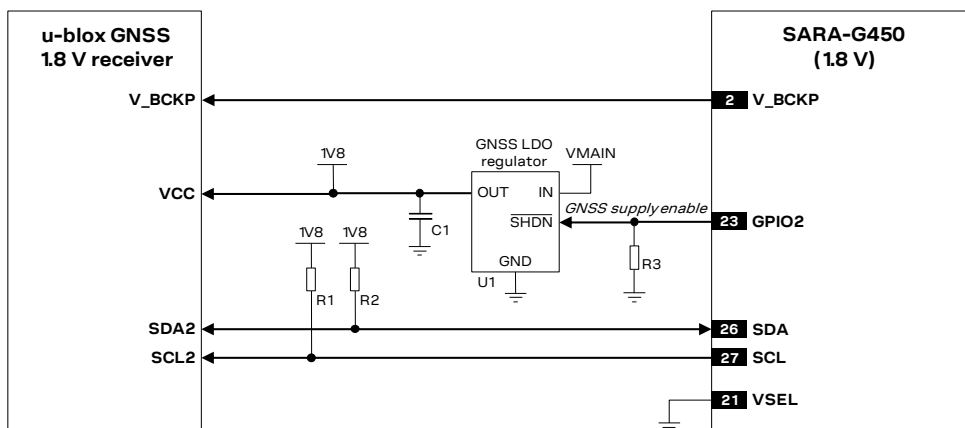
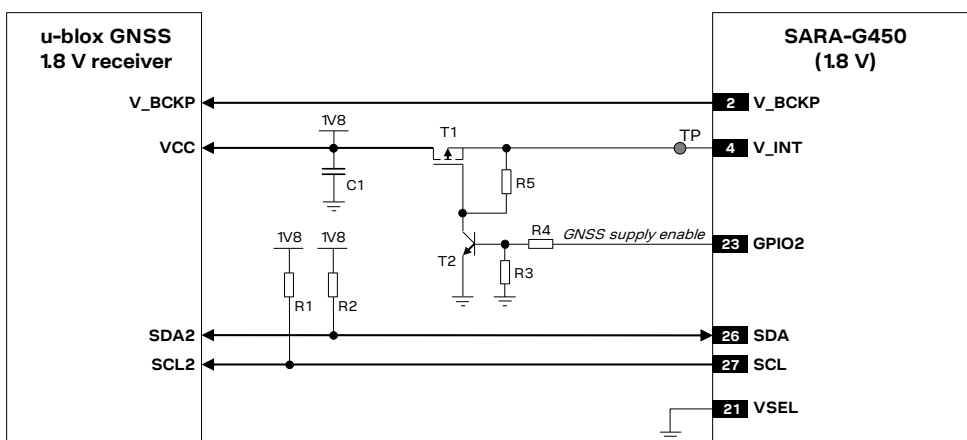
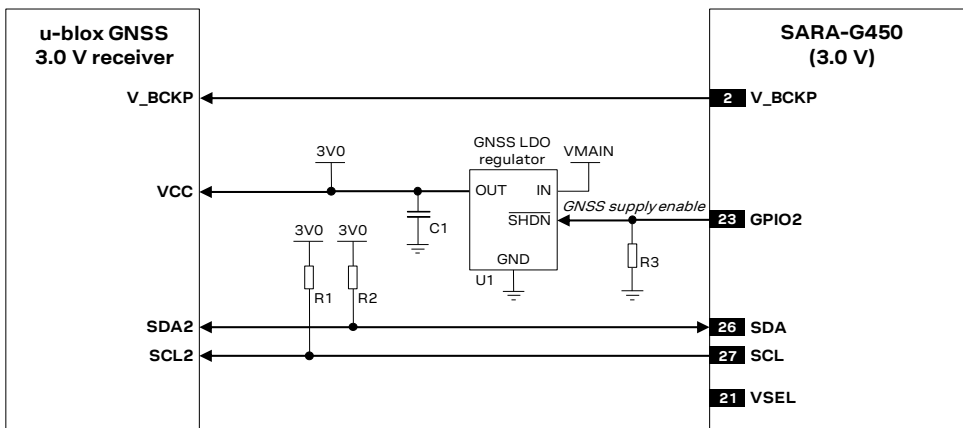
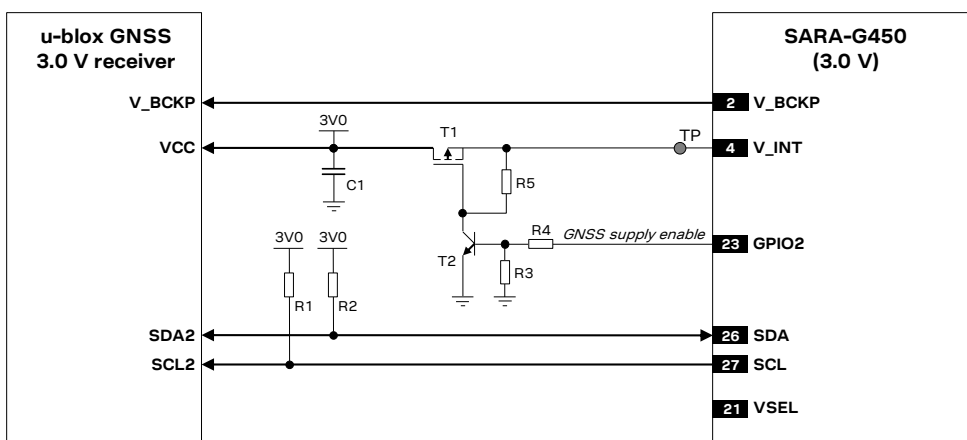

Figure 63: Application circuit for connecting SARA-G450 (1.8 V) modules to u-blox 1.8 V GNSS receivers
Figure 64: Application circuit for connecting SARA-G450 (1.8 V) modules to u-blox 1.8 V GNSS receivers using **V_INT** as supply
Figure 66: Application circuit for connecting SARA-G450 (3.0 V) modules to u-blox 3.0 V GNSS receivers
Figure 67: Application circuit for connecting SARA-G450 (3.0 V) modules to u-blox 3.0 V GNSS receivers using **V_INT** as supply
-  Connect the external DDC (I2C) pull-ups to the **V_INT** supply source, or another supply source enabled after **V_INT** (e.g., as the GNSS supply present in Figure 63 and Figure 66 application circuits), as any external signal connected to the DDC (I2C) interface must not be set high before the switch-on of the **V_INT** supply of the DDC (I2C) pins, to avoid latch-up of circuits and to permit a clean boot of the module.
Figure 63 shows an application circuit example for connecting a SARA-G450 cellular module to a u-blox 1.8 V GNSS receiver:
Figure 64 illustrates an alternative solution as supply for u-blox 1.8 V GNSS receivers: the **V_INT** 1.8 V regulated supply output of SARA-G450 cellular modules can be used to supply a u-blox 1.8 V GNSS receiver instead of using an external voltage regulator as shown in the previous Figure 63. The **V_INT** supply is able to support the maximum current consumption of these positioning receivers.
The supply of the u-blox 1.8 V GNSS receiver can be switched off using an external p-channel MOSFET controlled by the **GPIO2** pin by means of an appropriate inverting transistor as shown in Figure 64, implementing the “GNSS supply enable” function. If this feature is not required, the **V_INT** supply output can be directly connected to the u-blox 1.8 V GNSS receiver, so that it will be switched on when **V_INT** output is enabled.
- The **V_BCKP** supply output of the cellular module can be directly connected to the **V_BCKP** supply input pin of the GNSS receiver as in the application circuit of Figure 63.
Figure 66 shows an application circuit example for connecting a SARA-G450 cellular module to a u-blox 3.0 V GNSS receiver:
Figure 67 illustrates an alternative solution as supply for u-blox 3.0 V GNSS receivers: the **V_INT** 3.0 V regulated supply output of SARA-G450 cellular modules can be used to supply a u-blox 3.0 V GNSS receiver instead of using an external voltage regulator as shown in the previous Figure 66. The **V_INT** supply is able to support the maximum current consumption of these positioning receivers.
The supply of the u-blox 3.0 V GNSS receiver can be switched off using an external p-channel MOSFET controlled by the **GPIO2** pin by means of an appropriate inverting transistor as shown in Figure 67, implementing the “GNSS supply enable” function. If this feature is not required, the **V_INT** supply output can be directly connected to the u-blox 3.0 V GNSS receiver, so that it will be switched on when **V_INT** output is enabled.
- The **V_BCKP** supply output of the cellular module can be directly connected to the **V_BCKP** supply input pin of the GNSS receiver as in the application circuit of Figure 66.